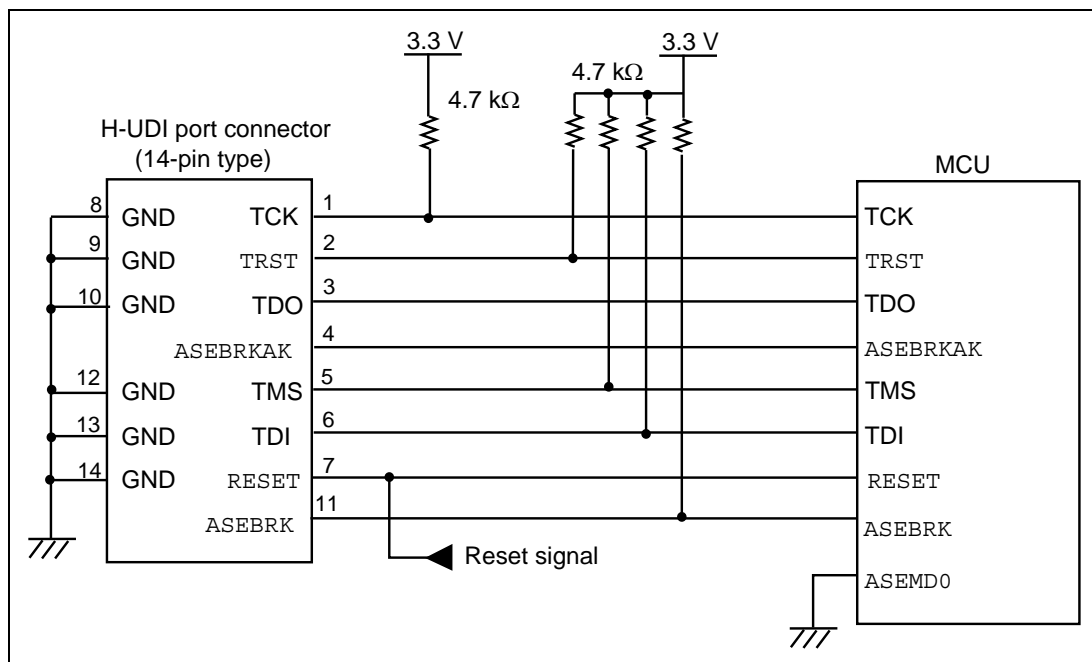

Figure 4.2 Recommended Circuit for Connection between the H-UDI Port Connector and the MCU when Using the Emulator (14-Pin Type)
Figure 4.2 shows a recommended circuit between the H-UDI port connector (14 pins) and the MCU.
(1) When the emulator is used: /ASEMD = low (ASE mode)
(2) When the emulator is not used: /ASEMD = high (MCU mode)
6. The resistance values shown in figure 4.2 are for reference.